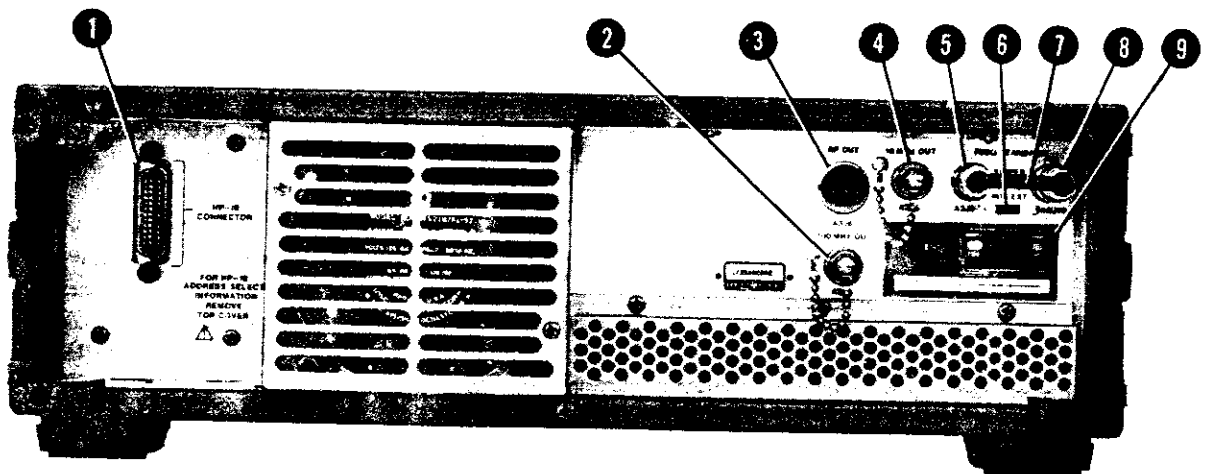

Figure 3-2. Rear Panel Connectors, Switches, and Displays
3-7. The only maintenance the operator should normally perform is the replacement of the primary power fuse (F1) located in the Line Power Module Assembly **9** (A3A11) shown in Figure 3-2 and the mechanical zero adjustment **22** of the meter shown in Figure 3-1. For instructions on how to change the fuse, refer to Section II, Line Voltage Selection.
- INTERNAL REF OFF:** when lit, indicates when the rear panel INT-EXT switch **27** (see Figure 3-2) is in the EXT position.
- 11 PRESET key (3 GHz):** sets frequency to 3 GHz and extinguishes the Frequency Resolution Light Bars **8**.
1. Check that the LINE switch **12** is in STANDBY and remove the power cable from the Line Power Module **9** (see Figure 3-2).
2. Check that Line Power Module **9** (see Figure 3-2) is set to the nominal line voltage to be used and that the fuse is the correct value and type.
1. On the rear panel (see Figure 3-2), remove Jumper **7** (A3W3) from the FREQ STANDARD EXT connector **8** (A3J10), and set the FREQ STANDARD INT/EXT switch **6** to EXT.